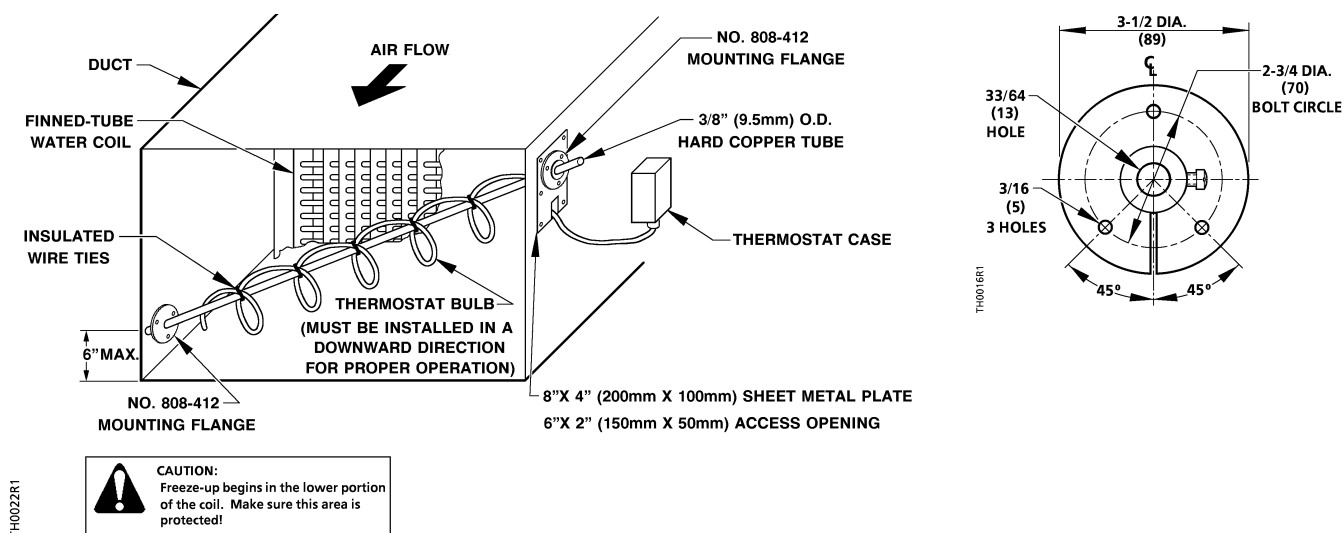

Figure 2. Bulb Mounting for Limited Access Ducts with 808-412 Mounting Flange.
Dimensions	See Figures 2 and 5
Limited Access Ducts (Figure 2)
4. Cut a length of copper tubing to fit diagonally across the duct. Stretch out the bulb and wrap it around the tubing. See *Figure 2*.